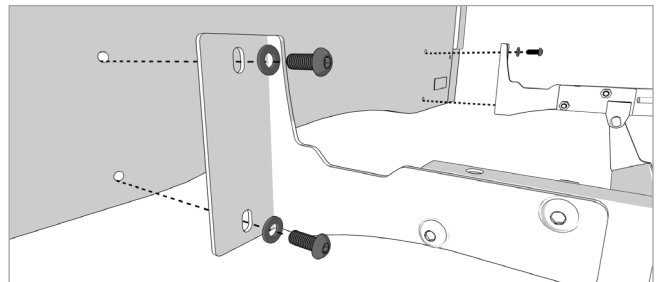

Figure 8.8
- Secure the headboard using four M8 x 20 bolts and four M8 washers with the 5mm Allen Key as shown in Figure 8.8.